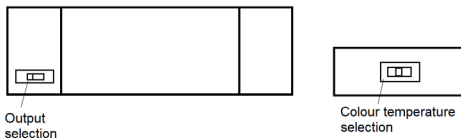

Fig. 4
- Select the desired colour temperature via the 3-position switch and the wattage via the switch on the side of the driver (see Fig. 4)